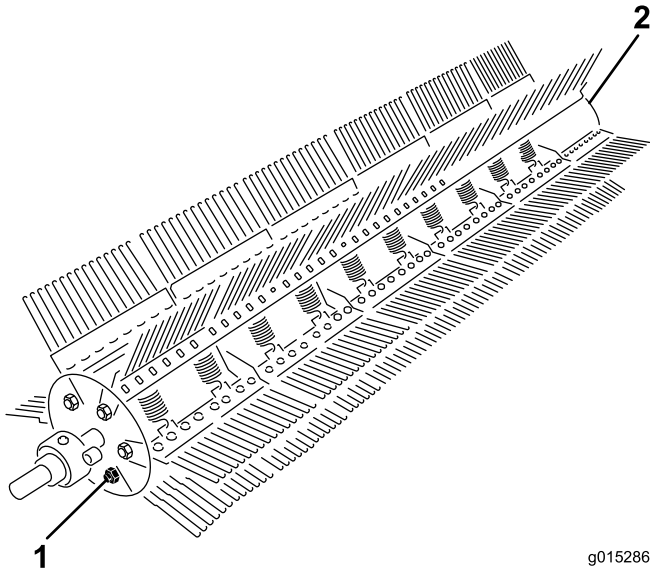

Figure 27
1. Remove the bolt and locknut from one end of the reel (Figure 27).